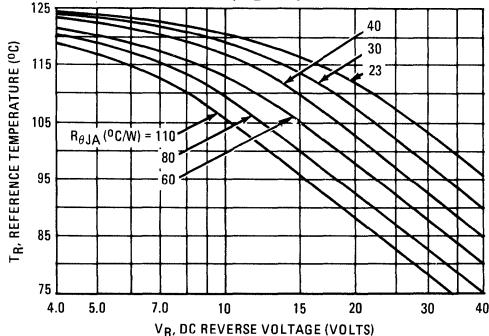

FIGURE 2 – MAXIMUM REFERENCE TEMPERATURE
Step 2. Find  $T_R$  from Figure 2. Read  $T_R = 109^\circ\text{C}$